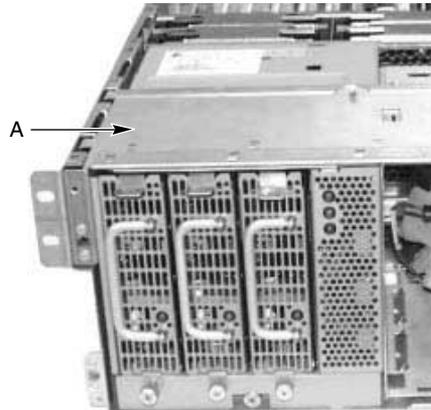

Figure 2-6 Metal Plate Covering the Power Subsystem Bay
6. Lift the piece of sheet metal covering the top of the power subsystem bay. The metal plate is noted by “A” in Figure 2-6 on page 38.
8. Place the piece of sheet metal that covers the top of the power subsystem bay so that the front of the sheet metal is flush with the front of the system. The metal plate is noted by "A" in Figure 2-6.